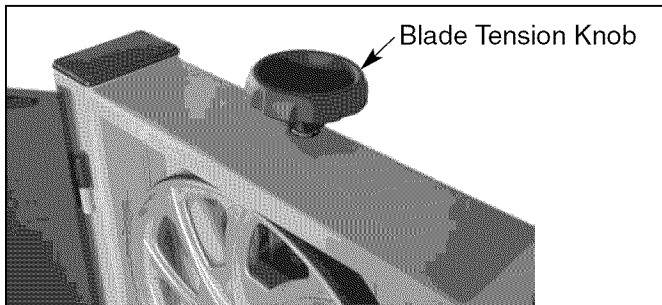

Figure 21 - Adjust Blade Tension
- Loosen the blade tension by turning the blade tension knob on the top of the upper wheel housing counterclockwise until the saw blade has slackened (viewed from above). See Figure 21.